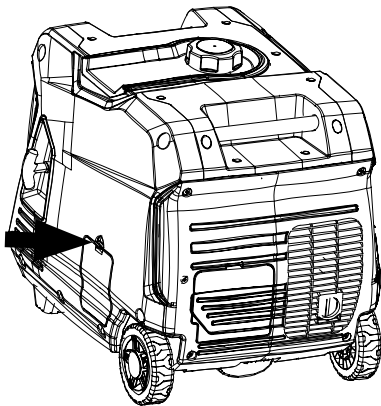

Figure 3: Oil Service Panel
1. Unclip and remove the oil service panel to access the oil plug/dipstick (see Figure 3).